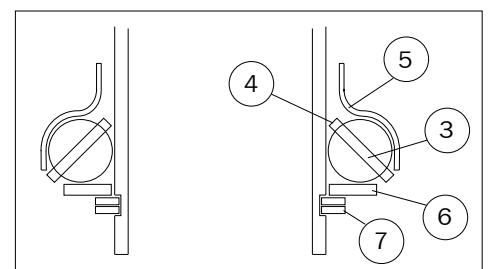

Fig. 5.12.c
Note that the bearing cage ③ is conical and that the "narrow" end ④ must enter the bearing race ⑤ (towards the top of the lower bearing assembly). See fig. 5.12.c.